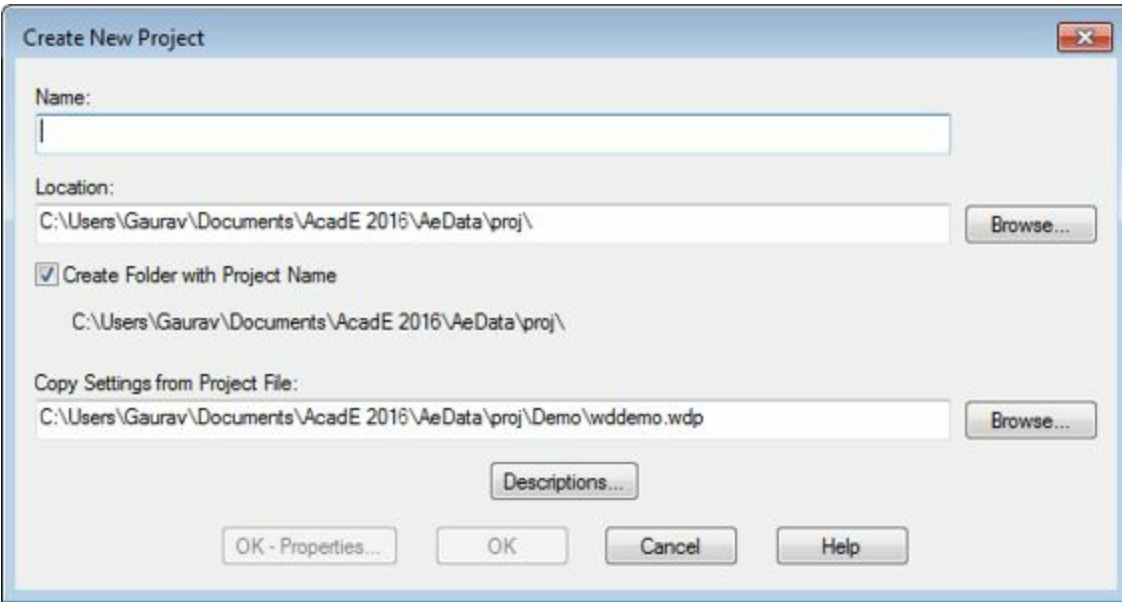

Figure-3. Create New Project dialog box
- On doing so, the **Create New Project** dialog box will be displayed; refer to Figure-3.